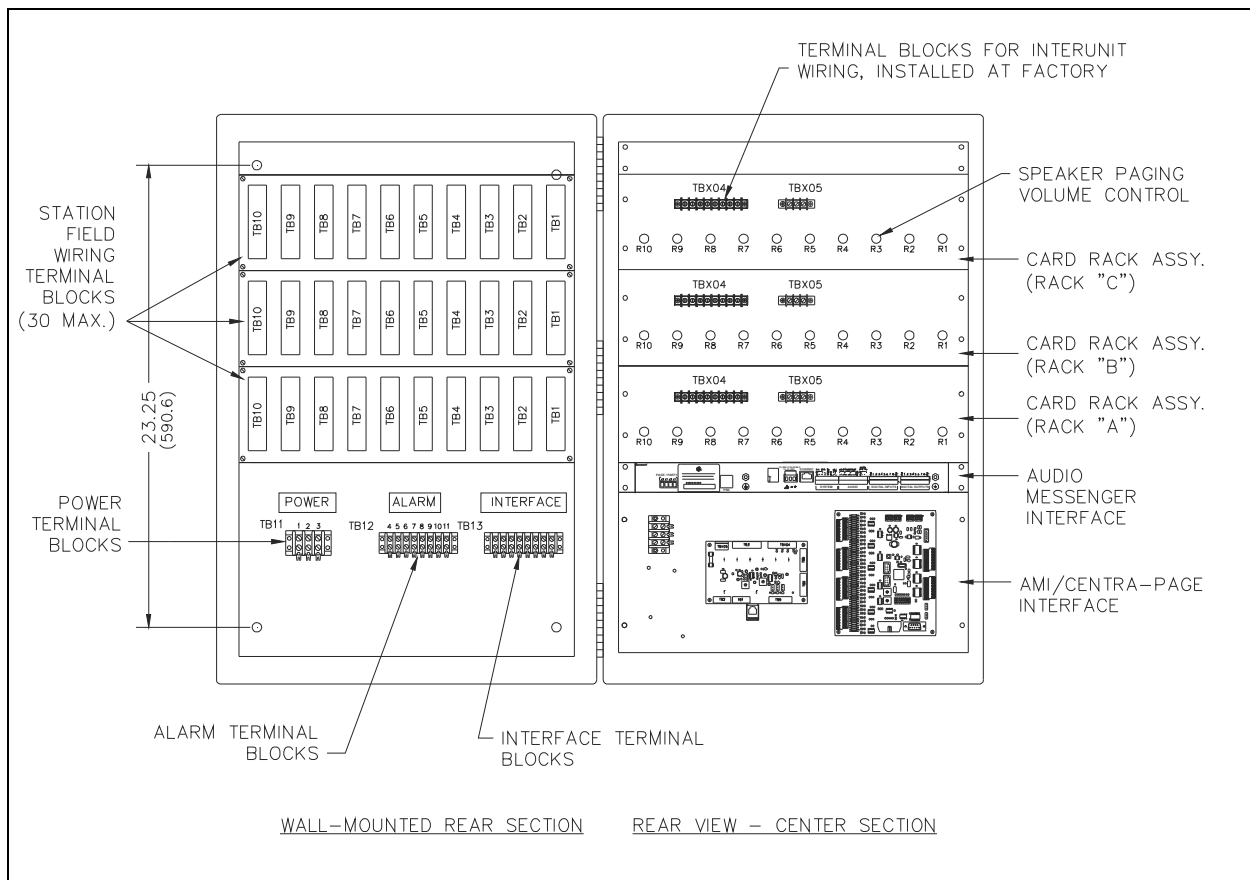

Figure 3. Centra-Page Central Cabinet
18. All field wiring is brought into the terminal blocks on the cabinet back panel. After the field wiring is connected, apply 24 V dc to TB11 on the central cabinet's rear panel. Refer to Figure 3.